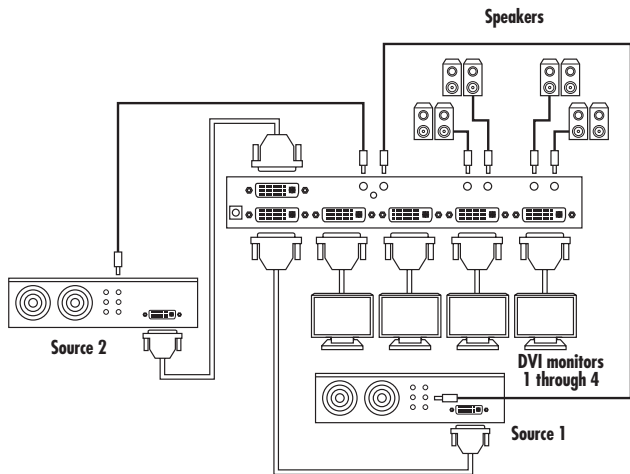

Figure 3-6. Linking video port 2 and audio port 2.
3. Repeat Steps 1 and 2 for the switch's video port 2 and audio port 2. See Figure 3-6.